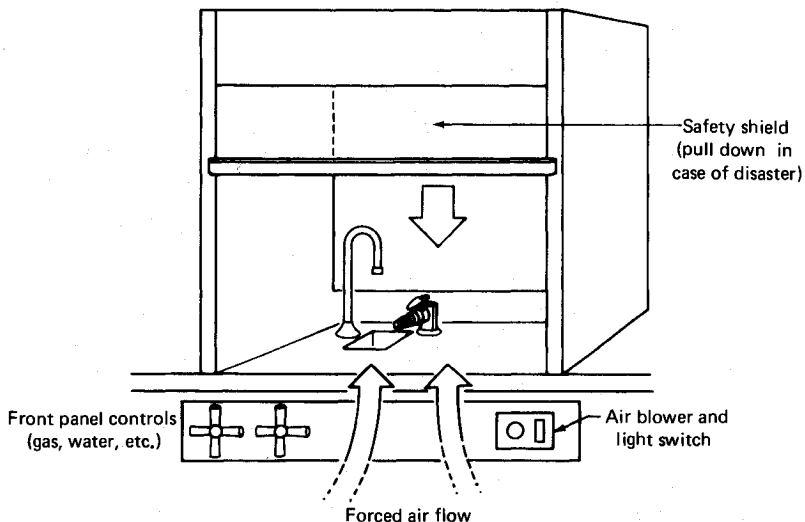

Fig. 1 A typical hood.
vent in an open beaker. Sure, there are times when you'll HAVE to use a flame, but use it away from all flammables and in a hood (Fig. 1), and only with the permission of your instructor.
12. **Work in the Hood.** A hood is a specially constructed workplace that has, at the least, a powered vent to suck noxious fumes outside. There's also a safety glass or plastic panel you can slide down as protection from exploding apparatus (Fig. 1). If it is at all possible, treat every chemical (even solids) as if toxic or bad smelling fumes came from it, and carry out as many of the operations in the organic lab as you can *inside a hood*, unless told otherwise.